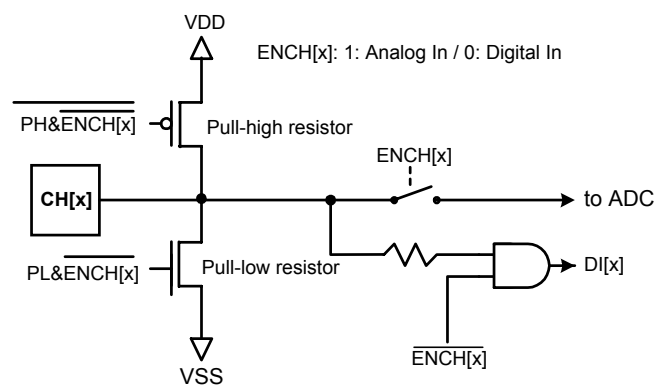

Figure-11 Circuit diagram of the Input Channel PAD
- (1) If any channel is programmed to be analog input mode, then the corresponding internal signal, $ENCH[x]=1$. As in Figure-11, pull-high and pull-low are disabled. And the path to digital input is blocked. All digital reading operation of this channel will get the result “0”.
- (2) If any channel is programmed to digital input mode, then the corresponding internal signal, $ENCH[x]=0$. As in Figure-11, the path to ADC is removed.
- (3) While in digital input mode, this input port can be configured to be floating, weak pull-up, or pull-down by setting the control register PH and PL, where $PH\&PL=1$ is forbidden. The pull-up or pull-low resistor are both around $500\text{K}\Omega@3\text{v}$.
- (4) The default status (digital/analog, pull up/down) of all the channels are un-know after power on, so initialize each channel to define a correct state should be done after power on.
- (5) Mode of each channel ($ENCH[x]$) can be set by command 001.